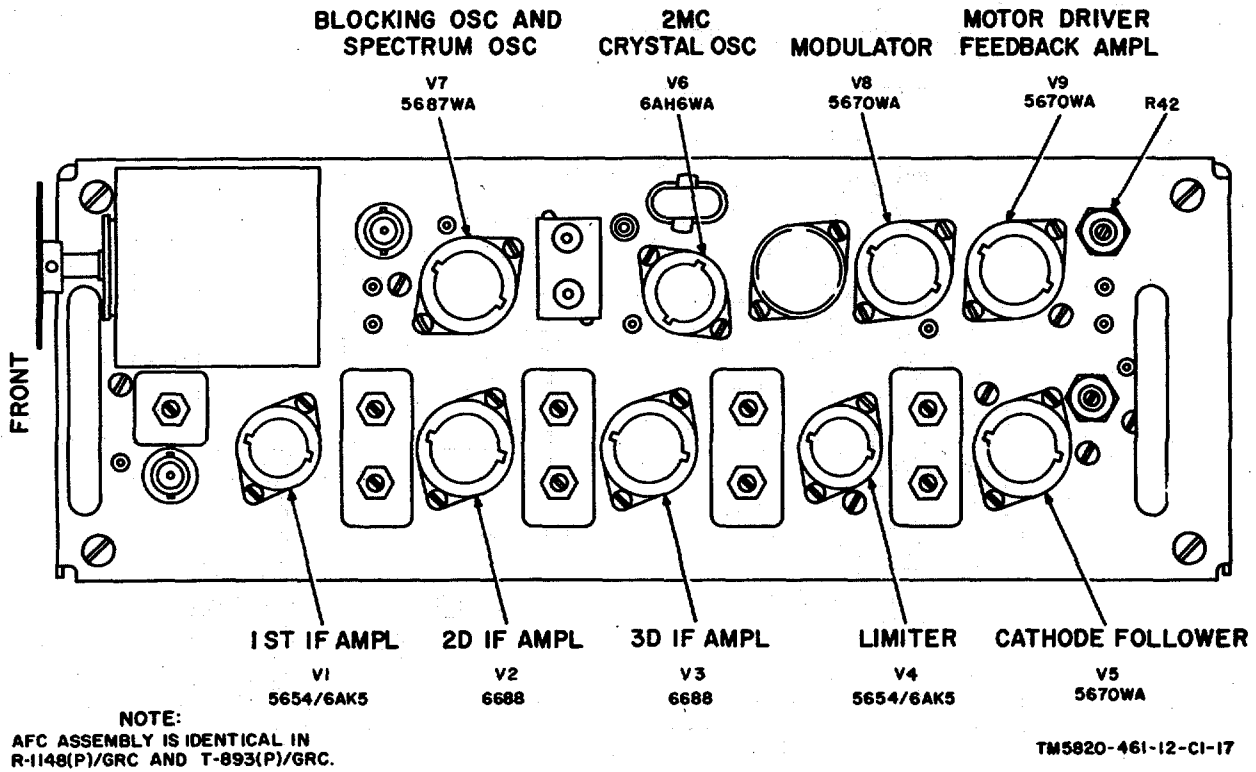

Figure 5-5. Afc assembly 2A4/3A4 (part of T-893(P)/GRC and R-1148(P)/GRC), tube locations.
d. R-1148(P)/GRC or R-1881(\*) (P)/GRC. Loosen the screws that attach the R-1148(P)/GRC or R-1331(\*) (P)/GRC to the component case, and remove the component from the case. Loosen the screws that attach the access cover to the rear of the R-1148(P)/GRC or R-1331(\*) (P)/GRC, and remove the cover. The plug-in assembly locations in R-1148(P)/GRC or R-1331(\*) (P)/GRC are shown in figure 6-6. The location of tubes on the main frame of the R-1148(P)/GRC or R-1331(\*) (P)/GRC is shown in figure 5-10. The locations of tubes in plug-in assemblies are shown in figures 5-5, 5-7, and 5-9.